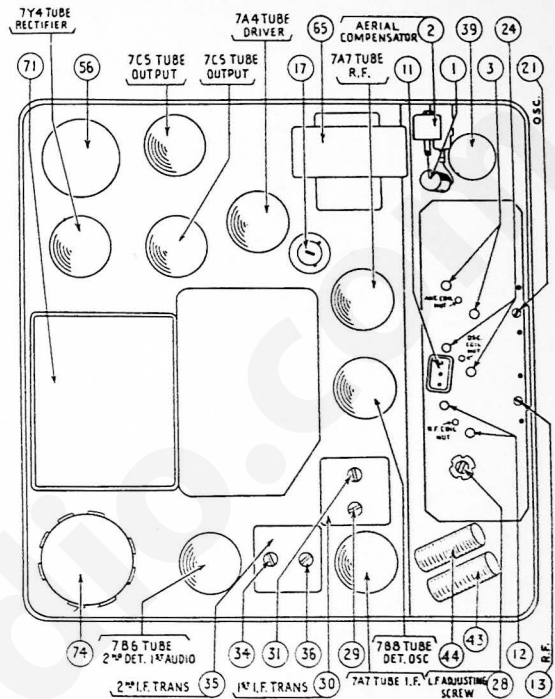

FIGURE 1
NOTE 5 — When installing the radio in the car, follow the installation instructions carefully. Tune in a weak broadcast signal between 1200 and 1400 Kilocycles on the control scale. Remove the plug button on the end of the radio and adjust the aerial compensator (2) (see Figure 1) for maximum signal.